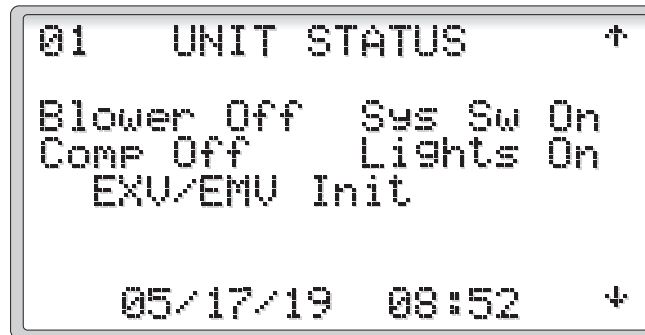

Figure 6
2.3.1.1 Modes and Time (Figure 6)